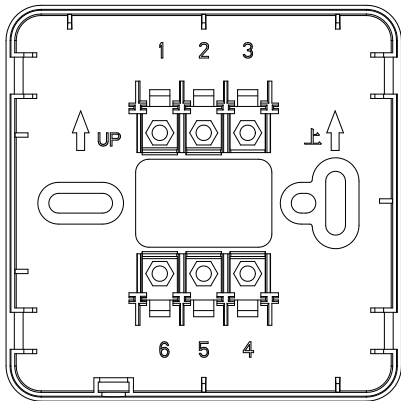

Figure 2 J-SAP-M-A62E base terminal
5.1 Figure 2 shows the schematic diagram of the base terminal of the manual alarm